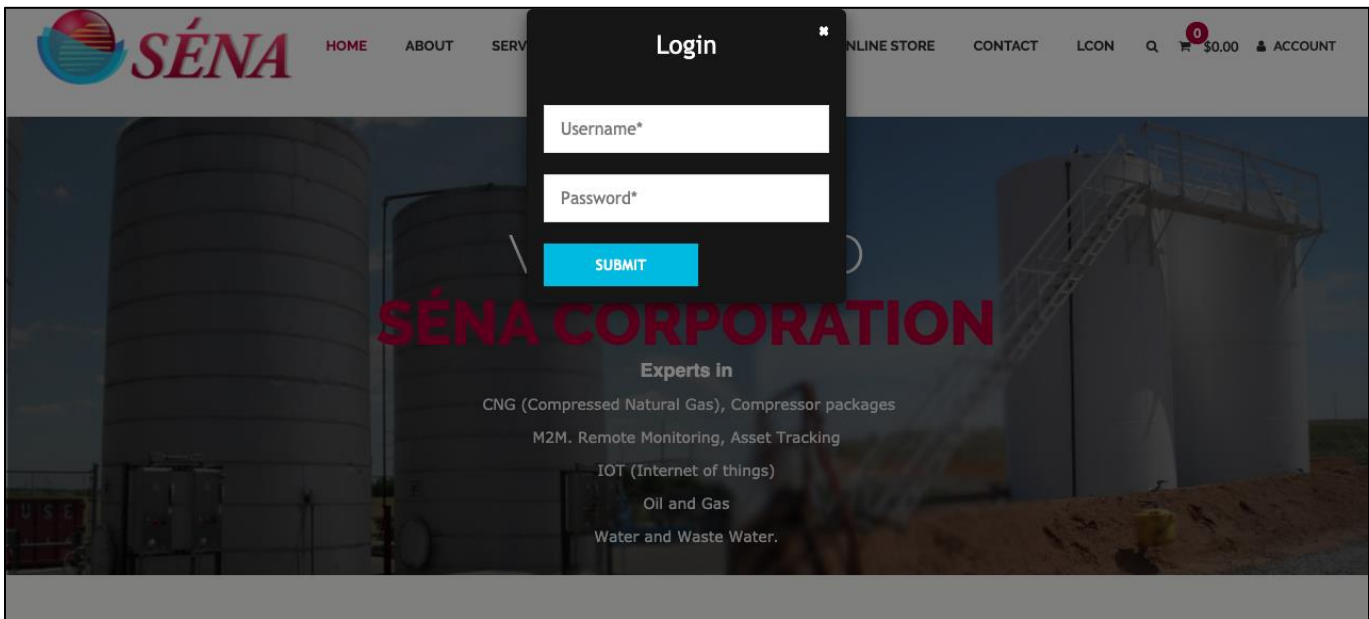

Figure 5
- 4) Click on “Submit” figure 5